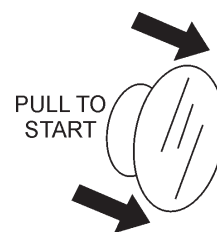

Figure 13. Engine Start/Stop Button
5. Located at the rear of the mixer frame is the main **start/stop** button (Figure 13). Pull this button outward to start the engine.